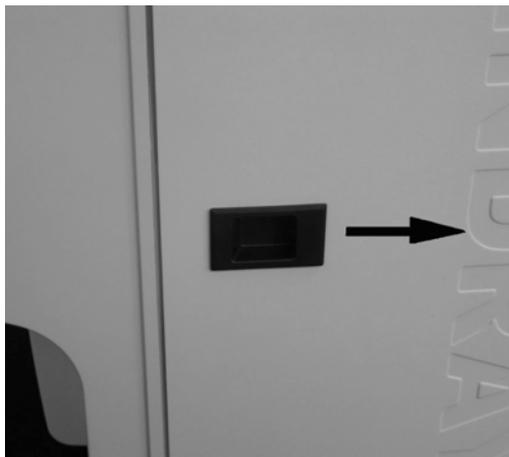

Figure10-42
2. Push the right door latch in the direction indicated in Figure10-42;